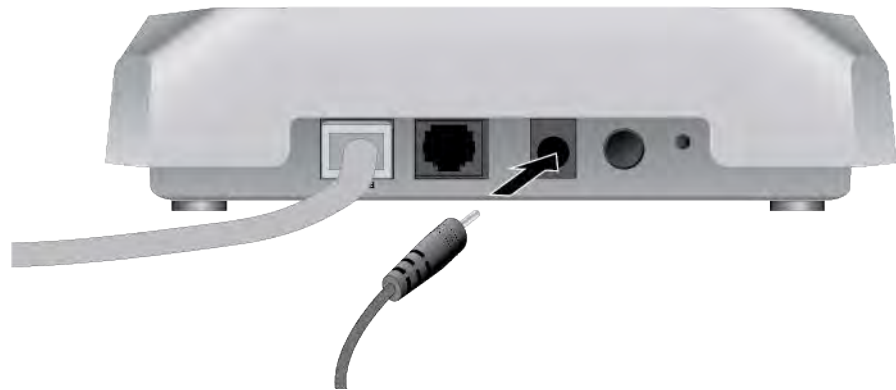

Figure 19. Connecting an AC Power Adapter to the Access Point
2. Plug the AC connector of the power adapter into the DC IN jack on the access point. Refer to Figure 19.